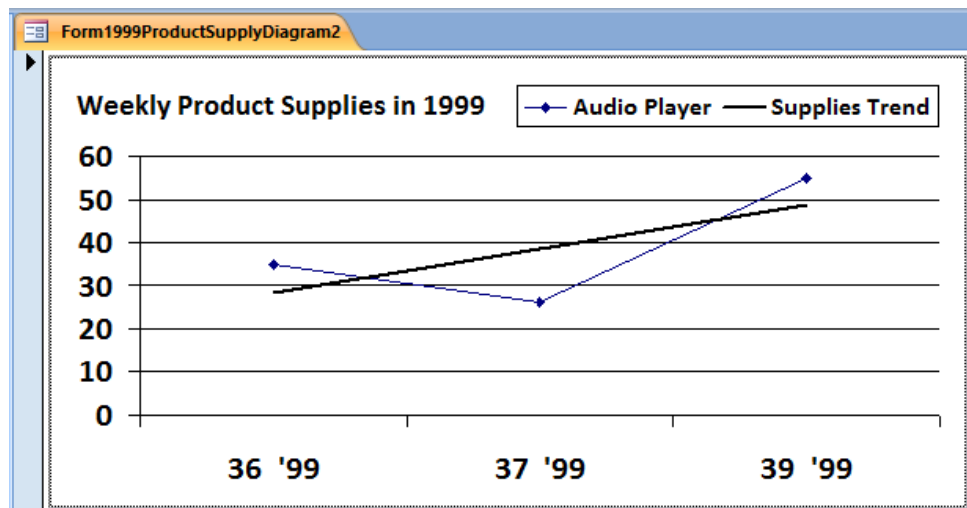

Figure 6.11
4) Switch to the form view in order to verify changes (figure 6.11);
5) Double click on chart to activate it, select “Chart” menu item and click “Add Trendline”, type custom trend line name “Supplies Trend” in the “Options” tab, and click OK to accept default trend line (figure 6.11).